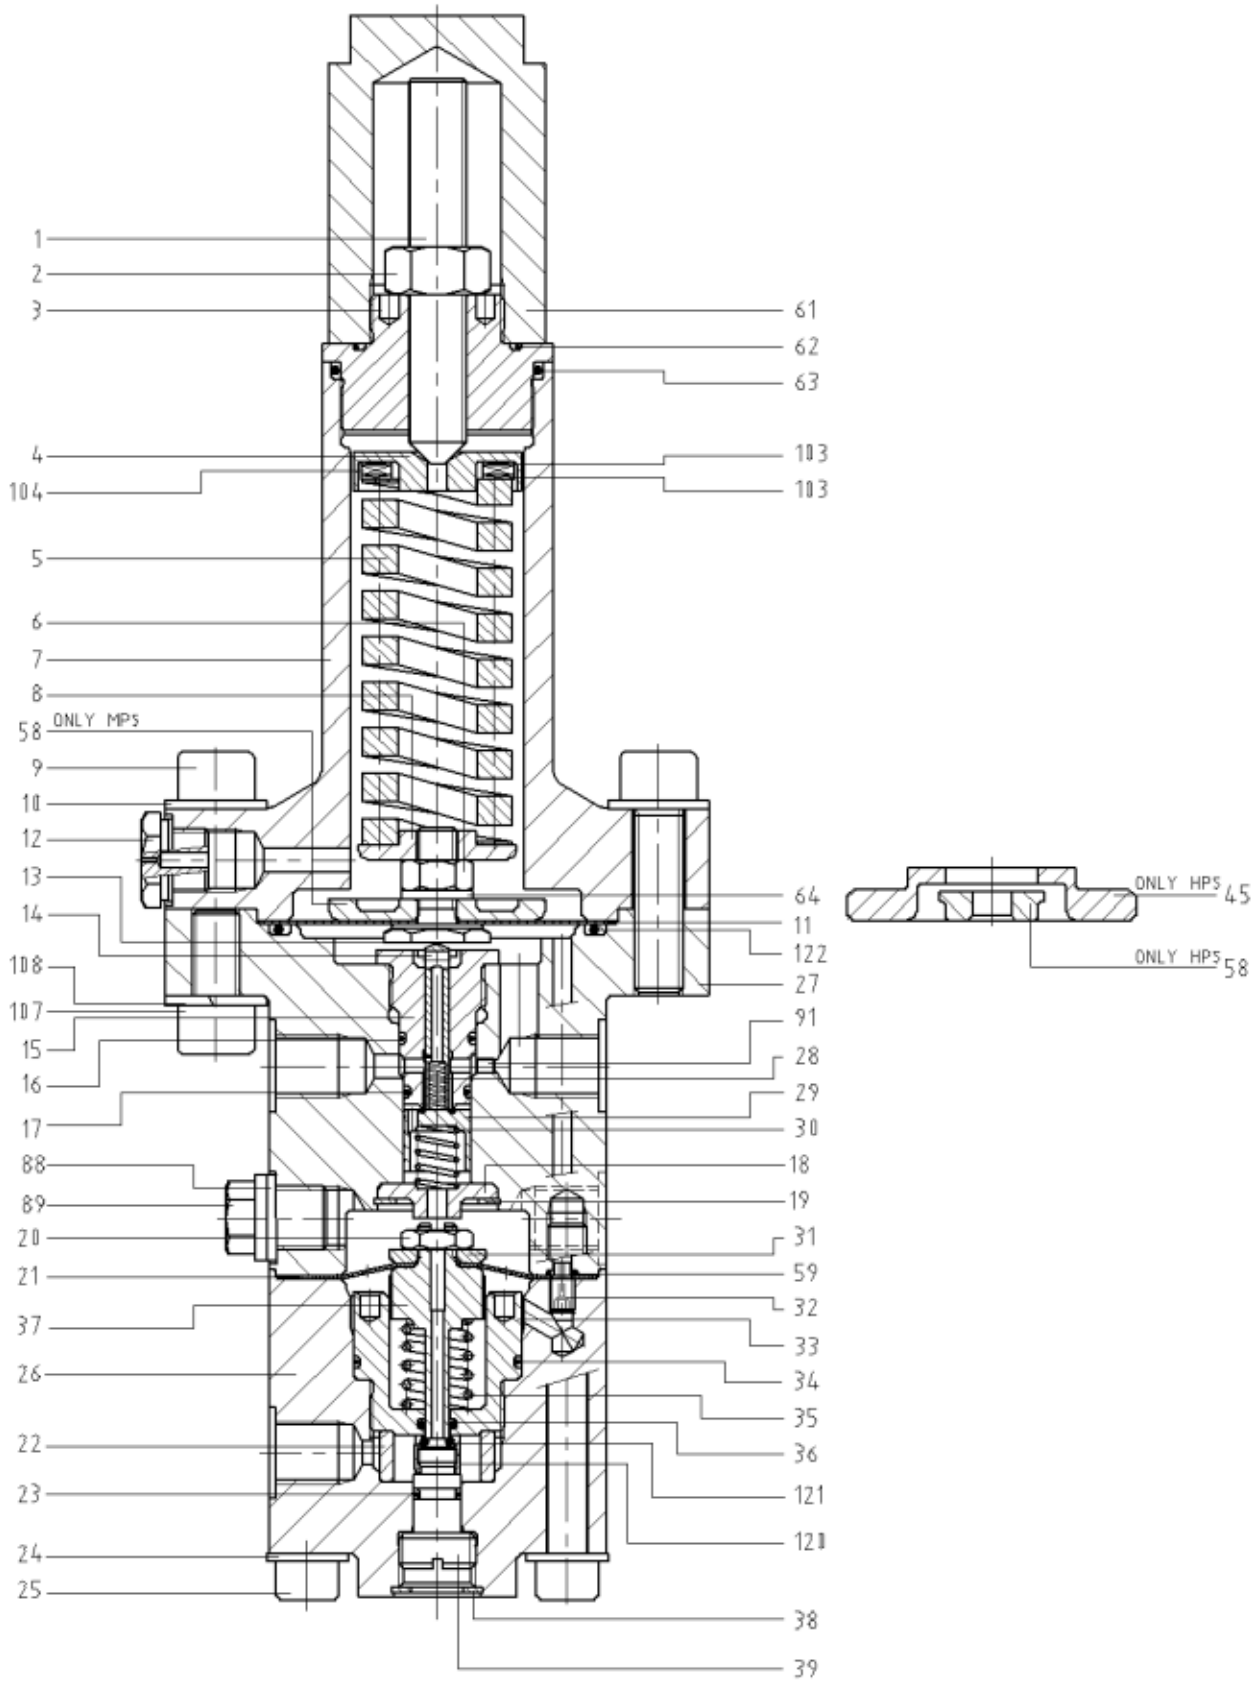

Figure A1: Position numbers P095
For an external tightness test, all partitions between the different pressurised parts of the pilot should be soaped down or sprayed with a leak-detection spray. Also do this for all couplings, bolt holes, breather opening and the stabiliser set screw (pos. 39, fig. A1).